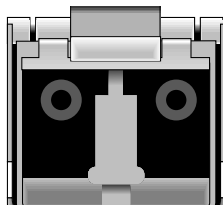

FIGURE 5-6 Duplex Jack at the End of an SFP
2. Plug one end of a Fibre Channel cable into the duplex jack at the end of the SFP, as shown in FIGURE 5-6.